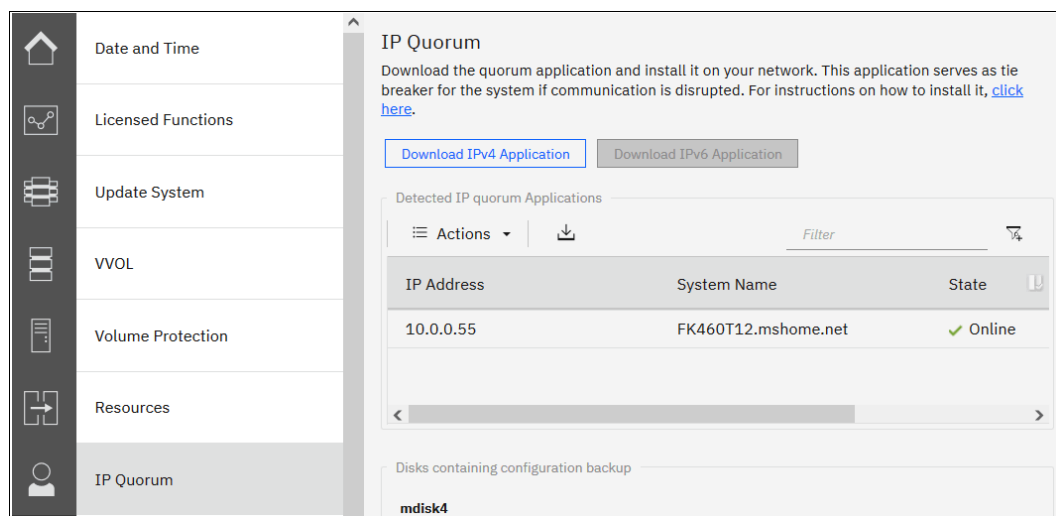

Figure 3-46 IP quorum application that is deployed and connected
- Check that the IP quorum application is successfully connected and running by verifying its Online status by selecting **System** → **Settings** → **IP Quorum**, as shown in Figure 3-46.